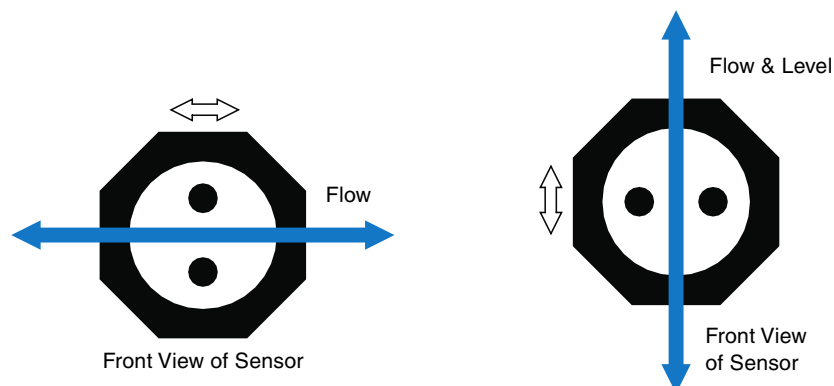

Figure 9 - Sensor Orientation for Horizontal Flow & Level
- To optimize the sensor's performance ensure the sensor is positioned as outlined below. As shown in Figure 9 below, ensure the arrows etched on the sensor flats are oriented parallel to the process flow.